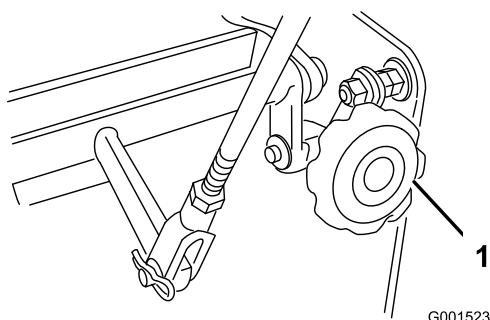

Figure 39
4. If the unit tracks to one side or the other, turn the quick track knob. Turn the knob right to steer right and turn the knob left to steer left (Figure 39).